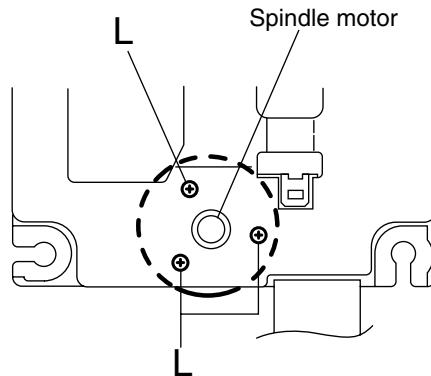

Fig.19
■Removing the spindle motor assembly (See Fig.19 to 21)